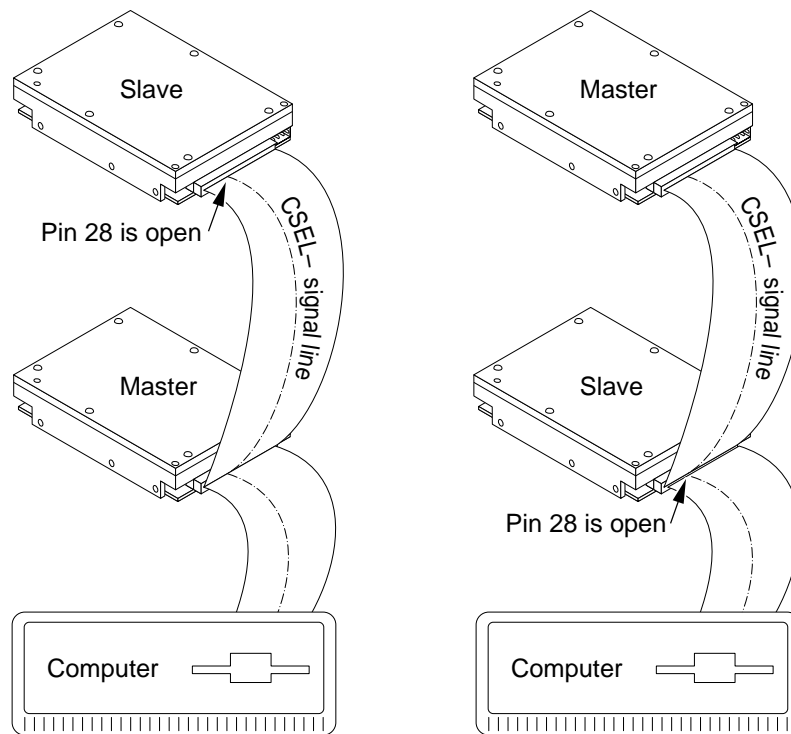

Figure 4. Connecting cable-selected drives
If your computer and both of your drives support cable select, you can use the cable select option to determine the master and slave, according to the following guidelines, which are illustrated in Figure 4.
- Use a special interface ribbon cable to select master and slave. The cable and its connectors transmit the CSEL signal (pin 28) to the master drive, but not to the slave drive, as shown in Figure 4.